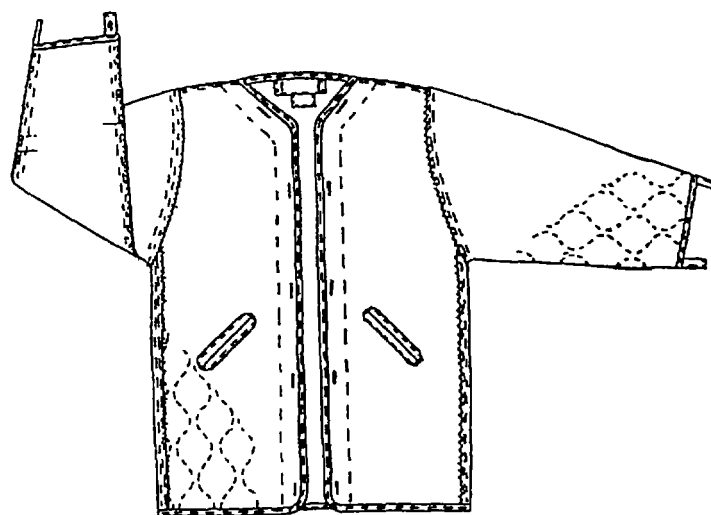

Figure 12-3. Desert Parka Liner
- e. Liner, Night Camouflage, Parka, Nylon quilted, Army Shade 106, MIL-L-44089 (NSN's 8415-01-102-4481 through 4485), Figure 12-3. The desert night parka liner is an olive green undergarment of polyester batting covered with 3 plies of ripstop nylon cloth and is worn with the desert night parka for additional Insulation. The liner is a three-quarter length cardigan style garment with bound edges. Button-holes along the neck and front edges and tabs on the sleeve bottoms are provided for attaching the liner to the parka.